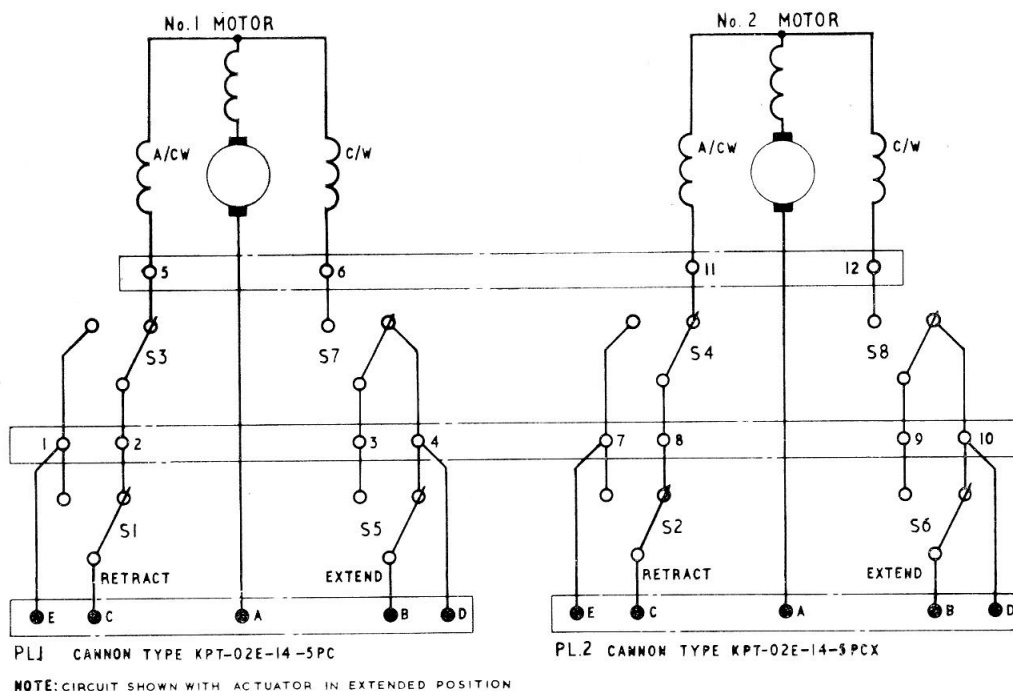

Fig. 6. Circuit diagram
18. Wiring in the actuator is single core 19/006 P.T.F.E. insulated cable (fig. 6). Each wire is identified by a numbered marker. Wire terminations at the switches are potted in position, and junctions of two or more wires are made on a terminal block using crimped joints. The actuator wiring is terminated at two 5 pin "Cannon" plugs, types K.P.T.-02E-14-5PC, and K.P.T.-02E-14-SP.CX. The limit switches are of single pole double throw type.